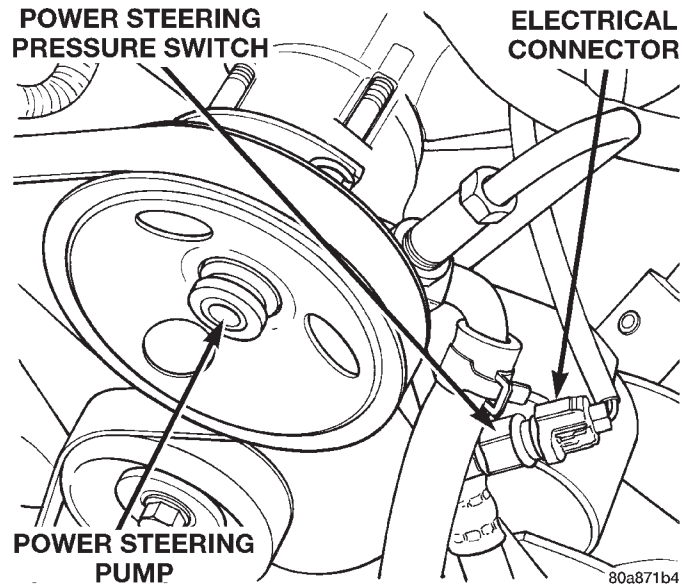

Fig. 28 Power Steering Pressure Switch—2.5L Engine
- (26) 2.5L 4-Cylinder Engine Only: Verify good electrical connection at power steering pressure switch (Fig. 28). This switch is not used with 4.0L engines.